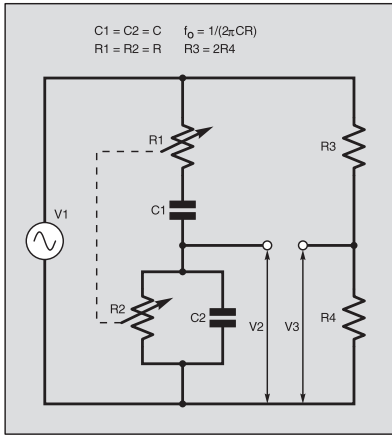
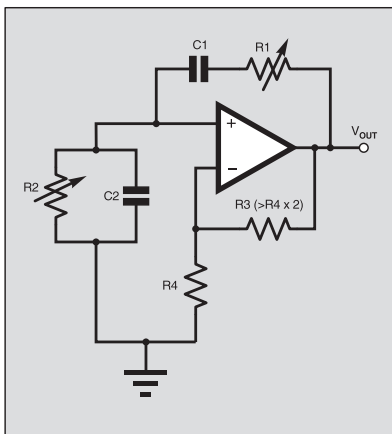
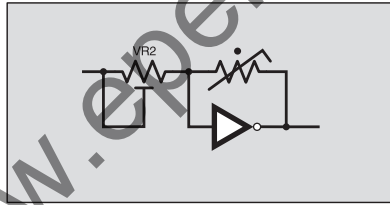
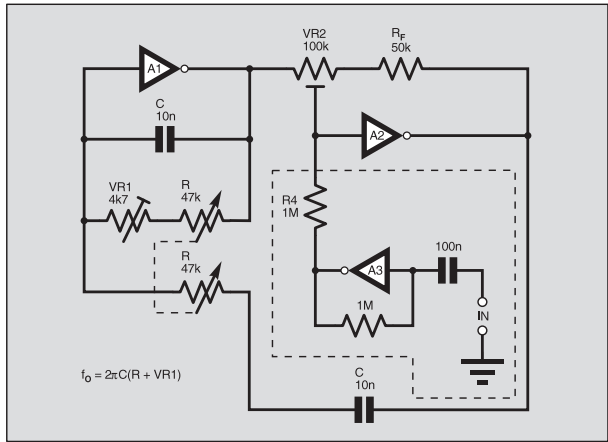

Fig. 13. Wien bridge.
Fig. 14. Wien bridge oscillator using an operational amplifier.
Fig. 16. Using a thermistor in place of R_F in Fig. 15.
Fig. 15. Inverter gate version of Wien oscillator. The A3 section can be added to inject an external synchronising signal.
The reactive (RC) arms of a Wien bridge (Fig.13) can be used to set the frequency of a sine wave oscillator formed around an op.amp (Fig.14). In a Wien bridge, when R1 = R2, C1 = C2 (the usual case) balance (zero output) is obtained when V2 = V3, in which case C then has a reactance equal to R.
In oscillators, use is made of the fact that RC arms of the bridge form a frequency-selective voltage divider whose output is greatest at f_o . At frequencies away from f_o , output falls. When this network is used as a positive-feedback path in an amplifier (Fig. 14) and the gain is just sufficient for oscillation, a sine wave at f_o is generated.
The standard circuit (Fig. 14) does not translate into inverter-oscillator form because an inverter has only one input terminal. It can, however, be adapted to a 2-inverter circuit, as illustrated in Fig. 15.
No device for automatic amplitude limiting is shown in Fig. 15. The job could be done by substituting a thermistor for the feedback resistance across A2 as in Fig. 16. VR2 would then provide oscillation level adjustment and should have a mid-value equal to the working thermistor resistance.
If very low distortion is not required, a fairly good sine wave can be obtained from the circuit as shown in Fig. 15 if set-up carefully, as follows: